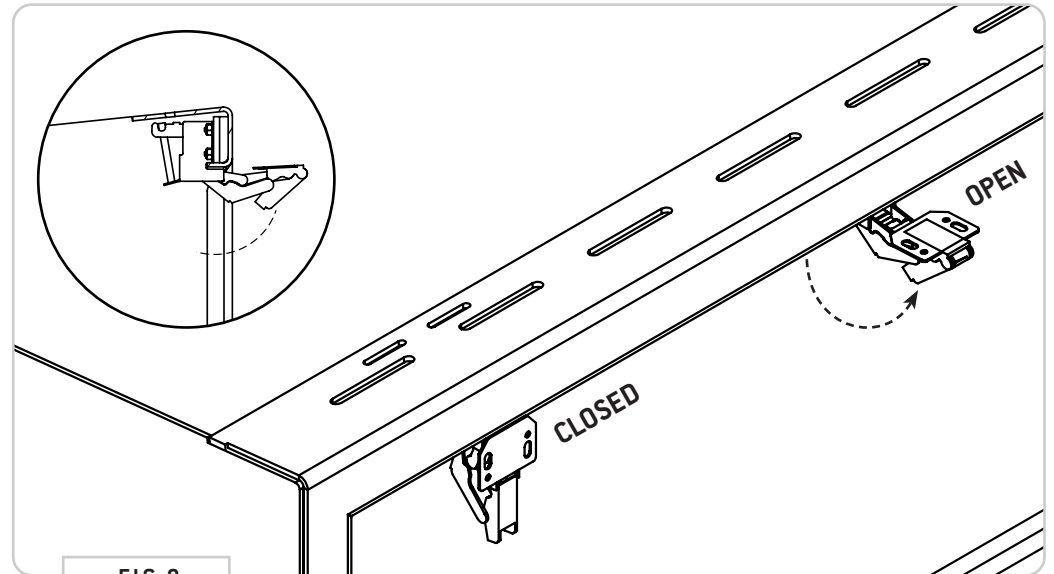

FIG 9
4.1 After mounting the **Cabinet** in the van and installing the **Latch** to the door, carefully pull on the **Cabinet Hinges** into the open position as shown in **FIG 9**.